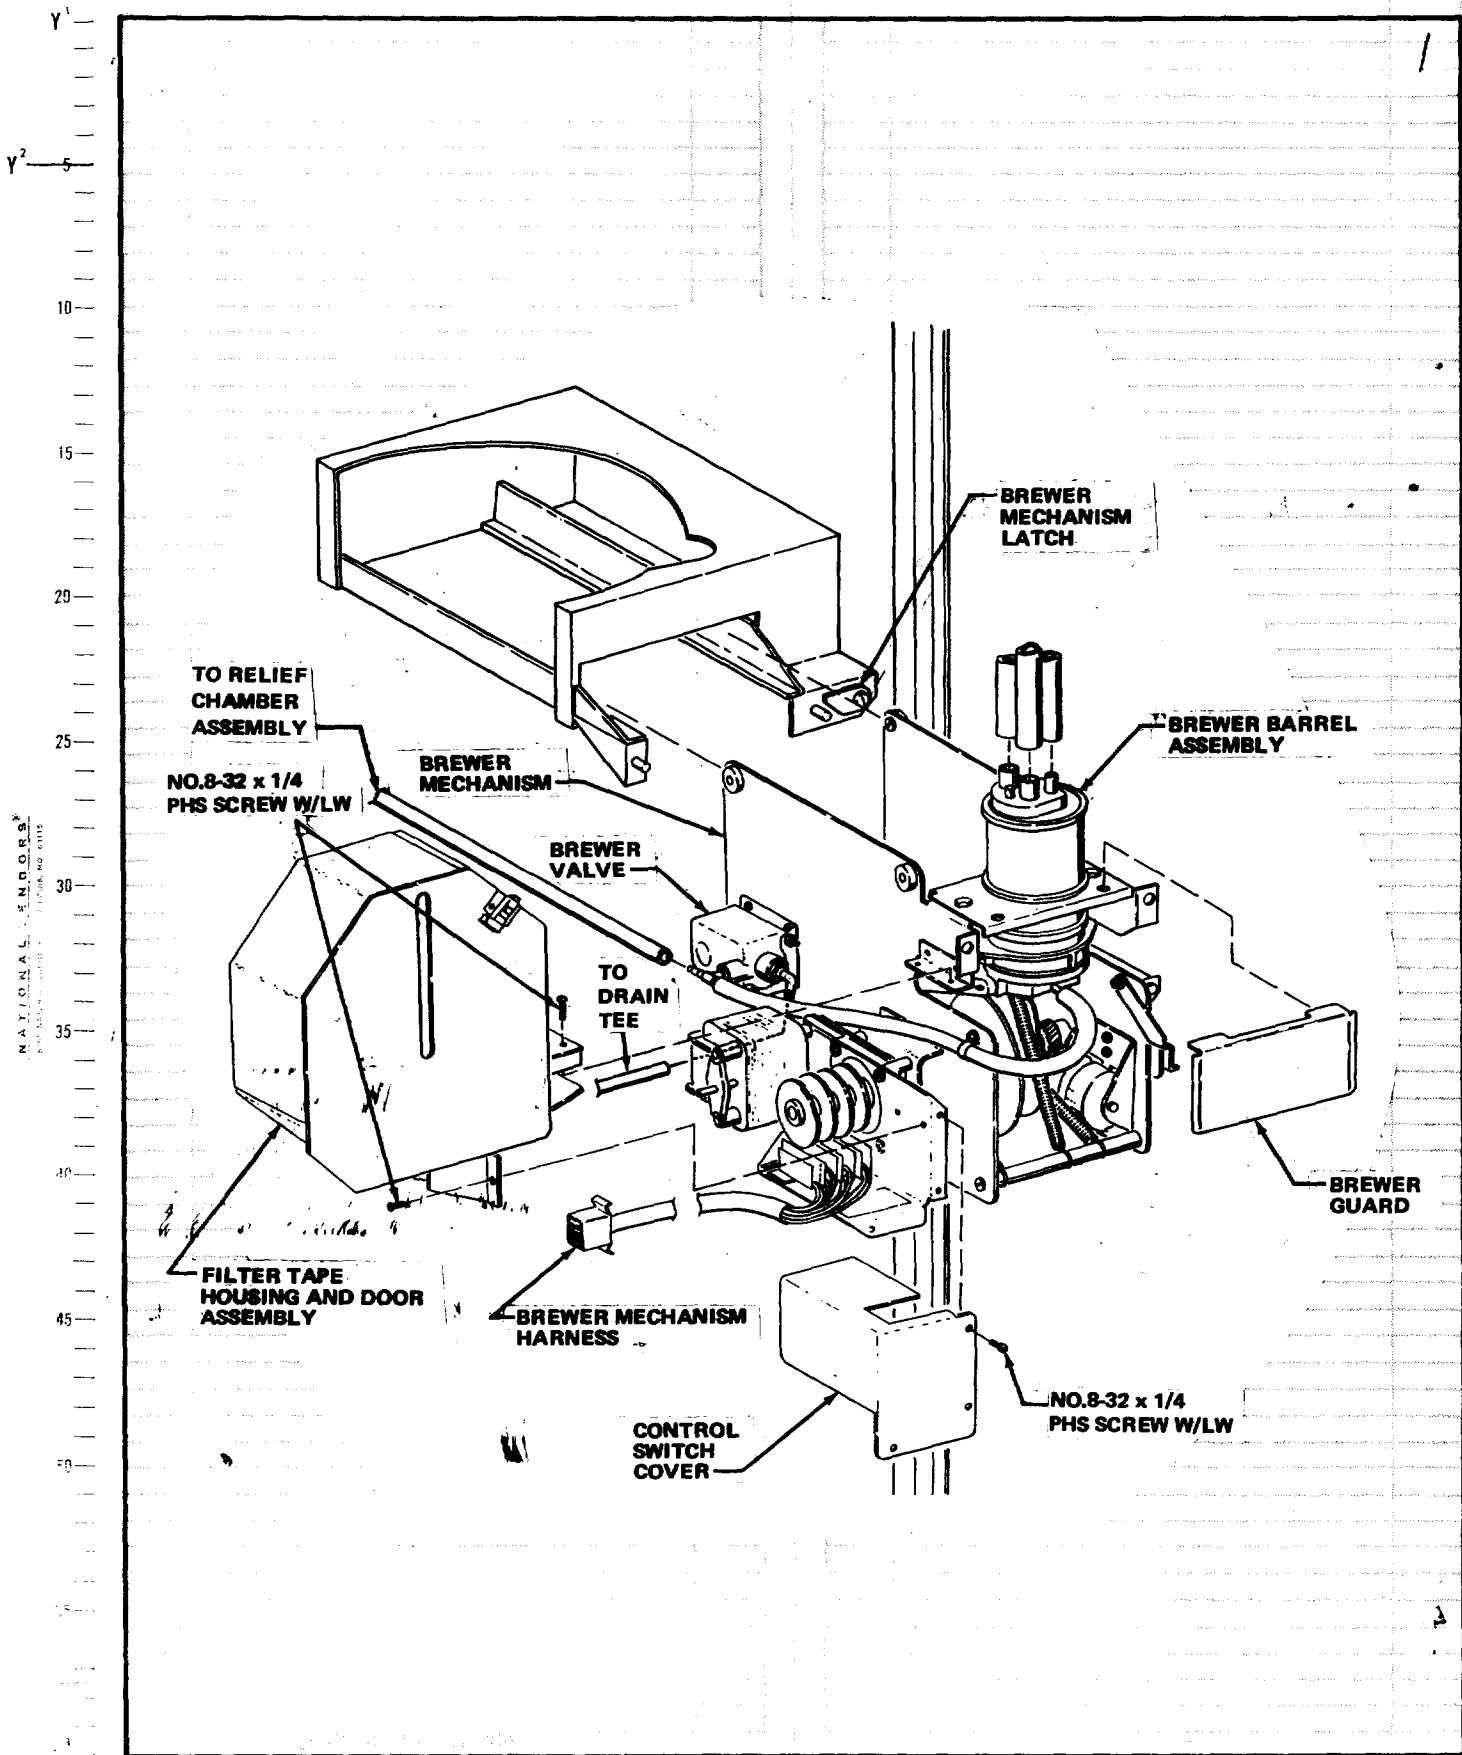
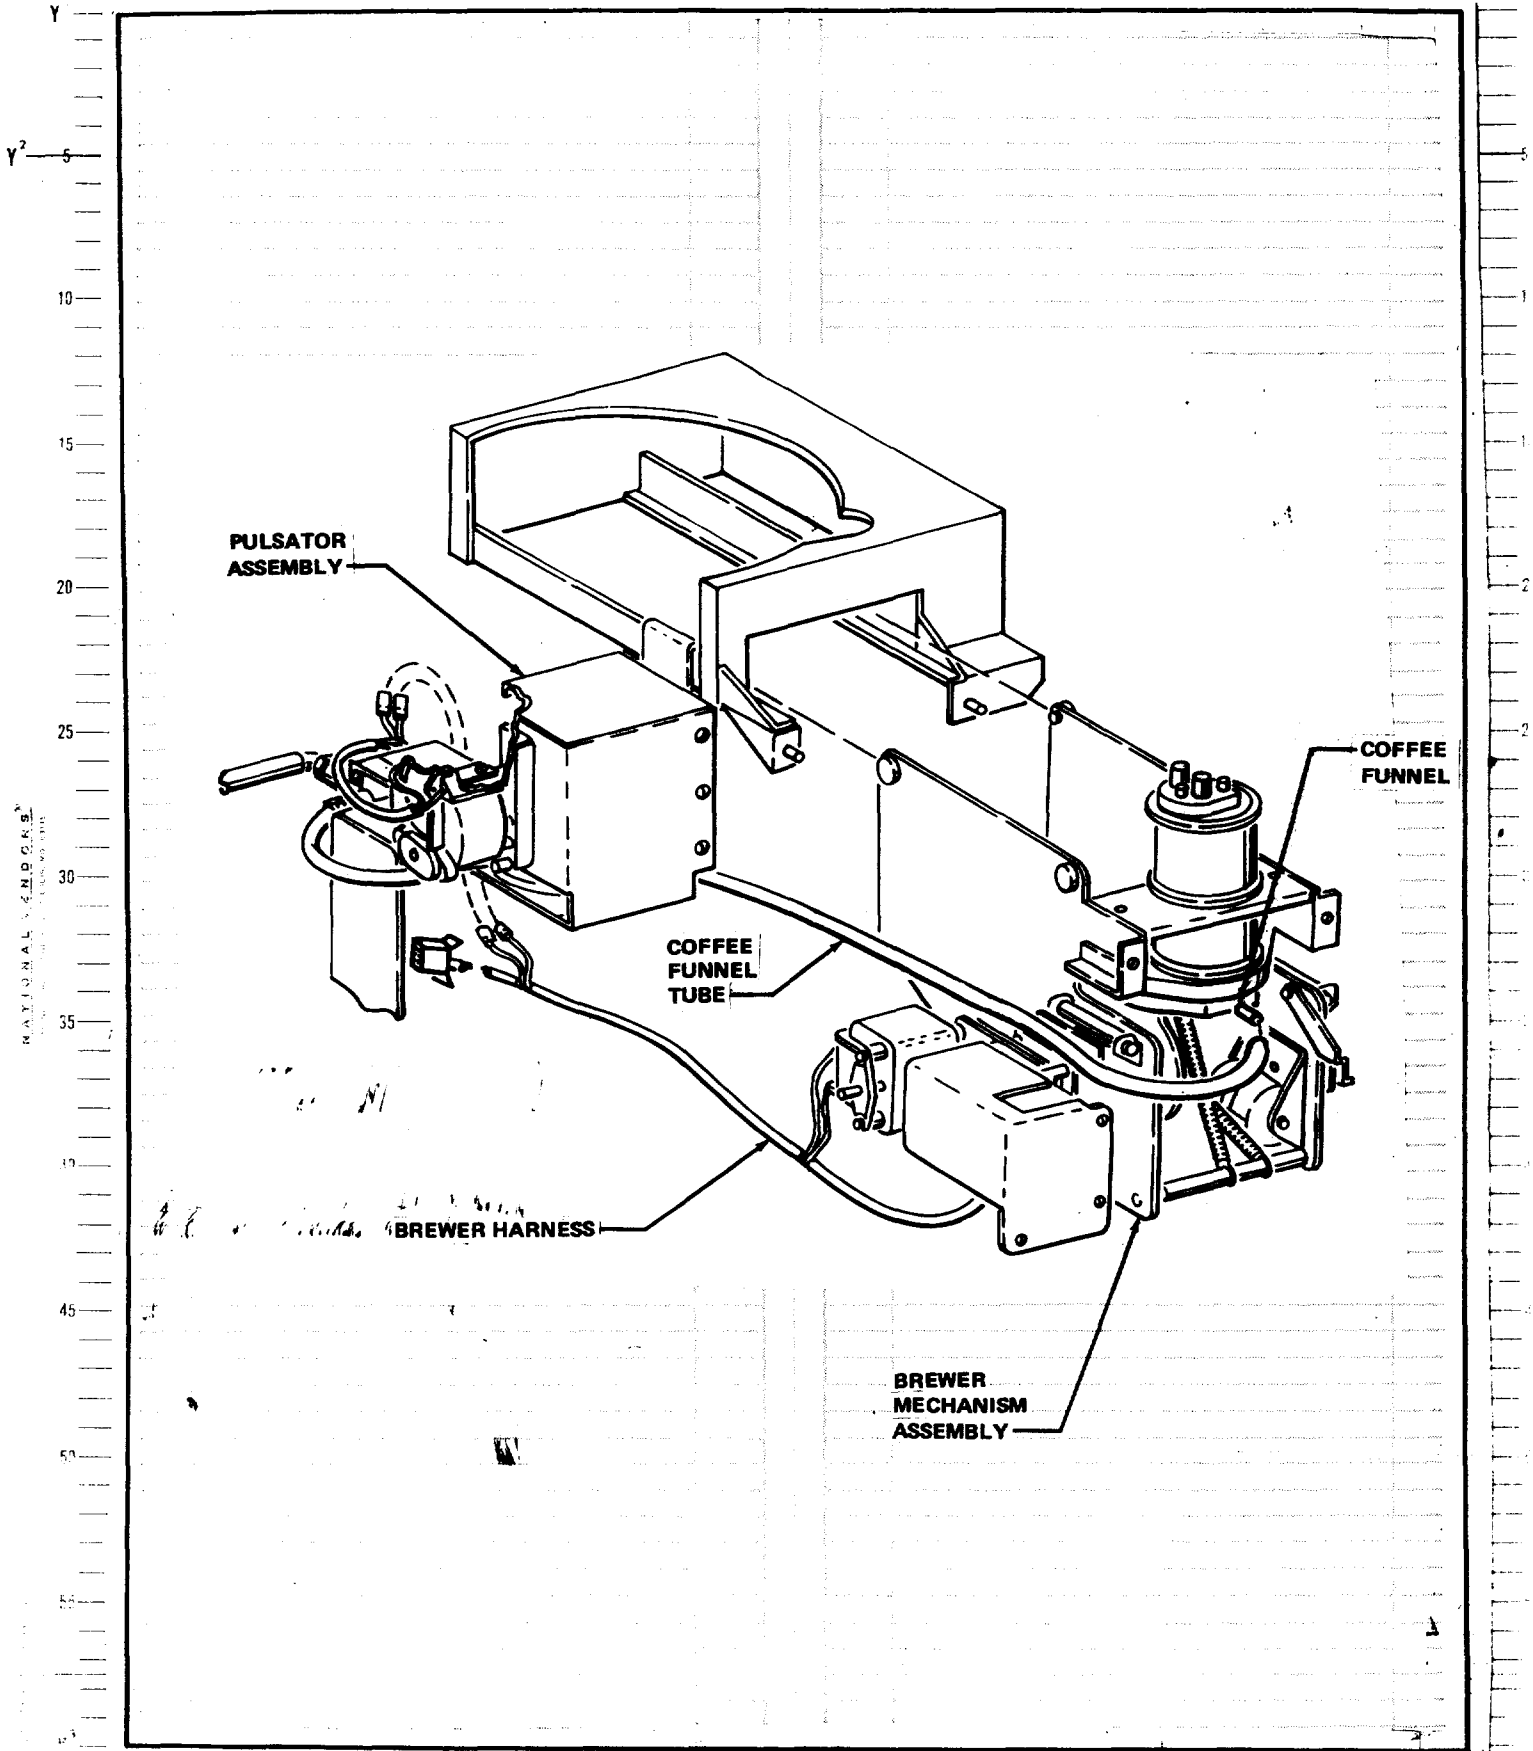

FIGURE 1
FIGURE 2
3. Disconnect the Brewer Mechanism Harness from the Merchandiser. See Figure 1 if Merchandiser is not equipped with a Pulsator Assembly. See Figure 2 if Merchandiser is equipped with a Pulsator Assembly.
4. Remove the Coffee Funnel Tube from the Coffee Funnel. See Figure 2.
5. Disconnect the tubing from the Brewer Valve on the left side of the Brewer Mechanism. See Figure 1.
6. Remove the Tubes from the Brewer Barrel Assembly. See Figure 1.
7. Remove the Brewer Guard from the Brewer Mechanism. See Figure 1.
9. Unlatch the Brewer Mechanism and carefully slide the Brewer and Housing Assembly out of the Merchandiser. See Figure 1.
10. Remove the Control Switch Cover by removing three No.8-32 x 1/4 Pan Head Screws with Lockwashers. See Figure 1.
11. Remove the Filter Tape Housing and Door Assembly by removing four No.8-32 x 1/4 Pan Head Screws with Lockwashers. See Figure 1.
21. Install the Filter Tape Housing and Door Assembly on the Left Sidewall and secure with four No.8-32 x 1/4 Pan Head Screws with Lockwashers. See Figure 1.
22. Install the Control Switch Cover on the Switch Mounting Bracket Assembly and secure with three No.8-32 x 1/4 Pan Head Screws with Lockwashers. See Figure 1.
23. Slide the Brewer and Housing Assembly into the Merchandiser and lock into place with the Brewer Mechanism Latch. See Figure 1.
25. Connect the Coffee Funnel Tube to the Coffee Funnel. See Figure 2.
26. Install the Brewer Guard on the Brewer Mechanism. See Figure 1.
28. Install the tubing from the Relief Chamber Assembly and the Drain Tee to the Brewer Valve on the left side of the Brewer Mechanism. See Figure 1.
29. Connect the Brewer Mechanism Harness to the Merchandiser. See Figure 1 if Merchandiser is not equipped with a Pulsator Assembly. See Figure 2 if Merchandiser is equipped with a Pulsator Assembly.